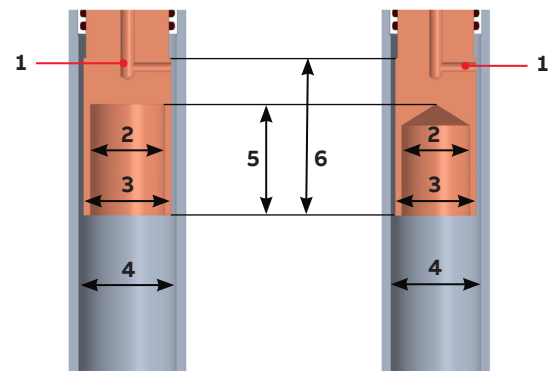

Fig. 7
- (1): Cable bolt for conductor rope [Fig 7 (A)] and dismantable conductor rod for conductor rope [Fig 7 (C)]
- (2): Cable bolt for conductor rope [Fig 7 (A)]
- (3): Cable bolt for conductor rope [Fig 7 (A)]
- (4): Fixed conductor rod [Fig 7 (B)] and dismantable conductor rod [Fig 7 (D)]
— Note Fig. 7